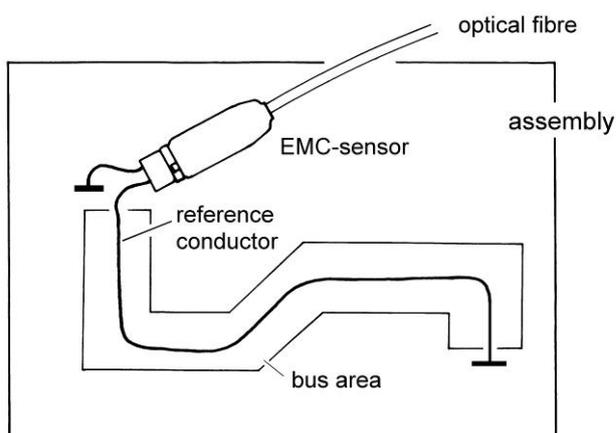

Fig. 9 Routing the reference conducting track with bus systems
**Worst-case arrangement:** The reference conducting track (low-resistance) is routed across the diagonals or along the edges of the electronic system to pick off a maximum disturbance voltage (Fig. 9). Routing can be implemented on one module or across several modules. The disturbance voltage is generally picked off via the GND system. The reference disturbance threshold need not correspond with the EUT's disturbance threshold for relative evaluations of EMC measures. The procedure is more convenient if the reference disturbance threshold is lower than the EUT's disturbance threshold. This can be realised by a relatively long pick-off distance.